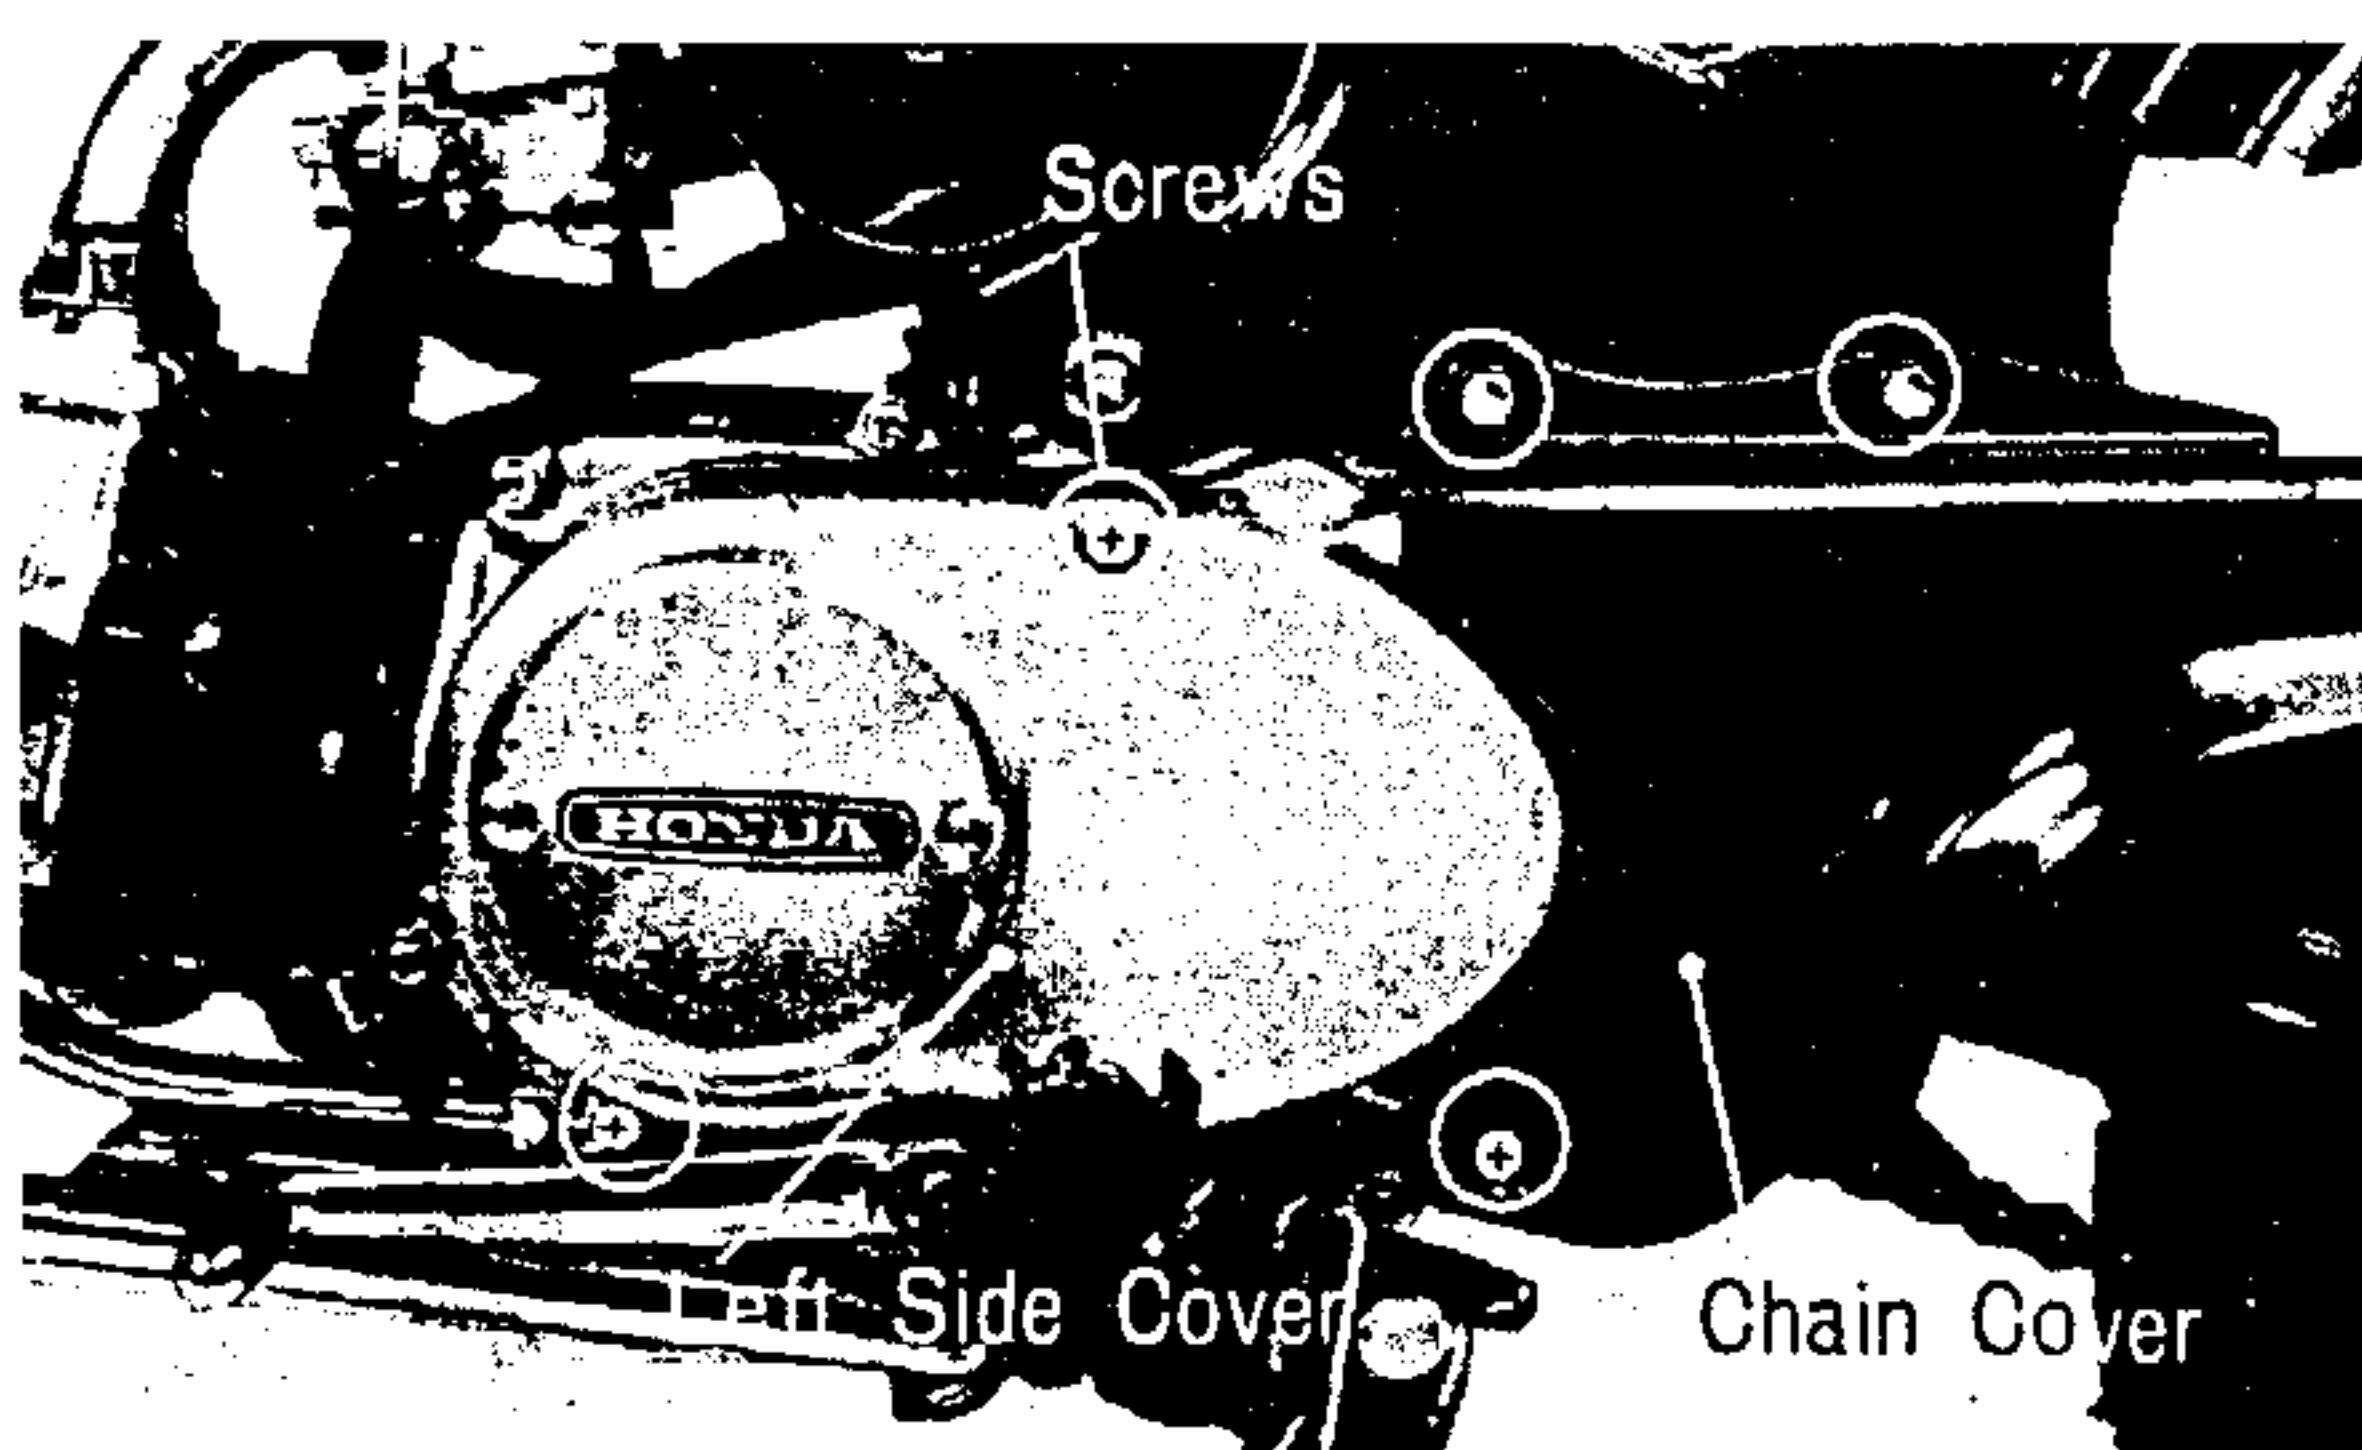

Fig. 4
8. Remove the left side cover by removing the two screws. (Fig. 4)